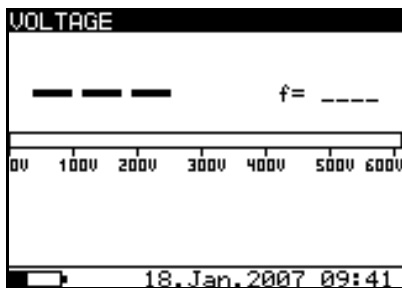

Fig. 13: Initial screen of voltage measure
2. Select with arrow keys **▼** or **▲** the item "VOLTAGE" on main menu and confirm with **SELECT** key. The screen of Fig. 13 is shown by the meter